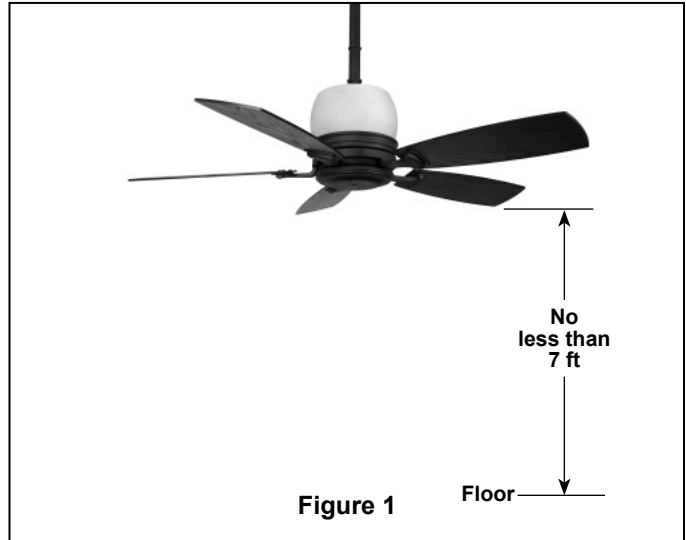

Figure 1
2. Check to see that you have received the following parts (Figure 1).
2. Remove the Hanger Ball by loosening the setscrew in the Hanger Ball until the ball falls freely down the Downrod. (Figure 1) Remove the Pin from the Downrod, then remove the Hanger Ball. Retain the Pin and Hanger Ball for reinstallation in Step 8.
The fan must be hung with at least 7' of clearance from floor to blades (Figure 1)